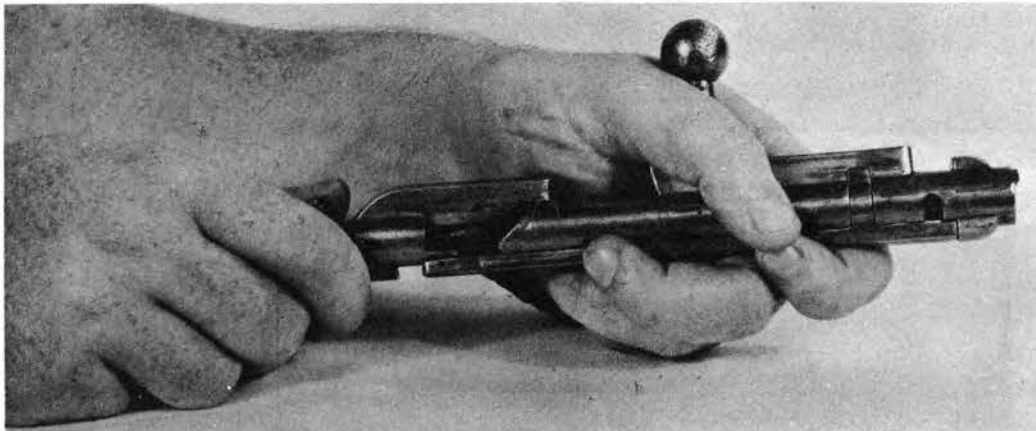
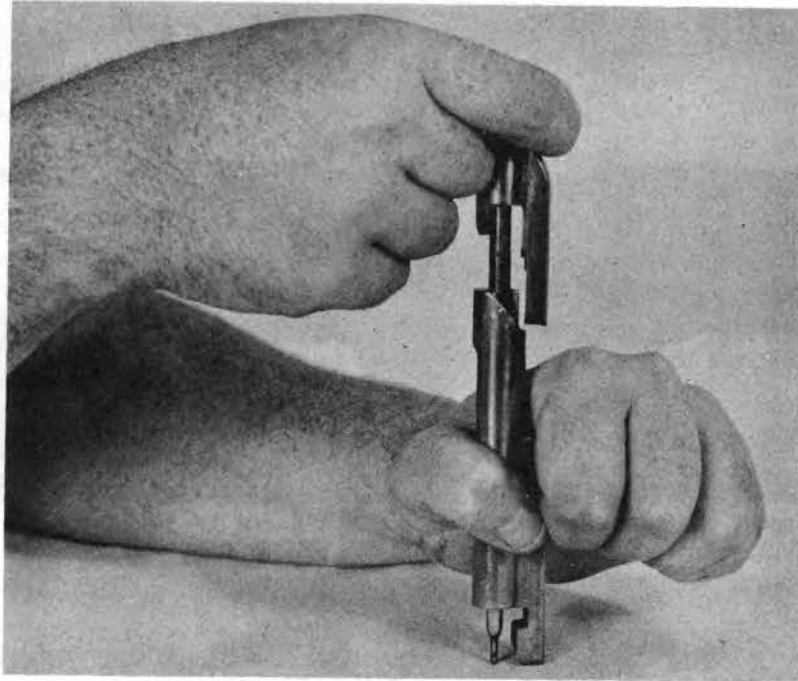
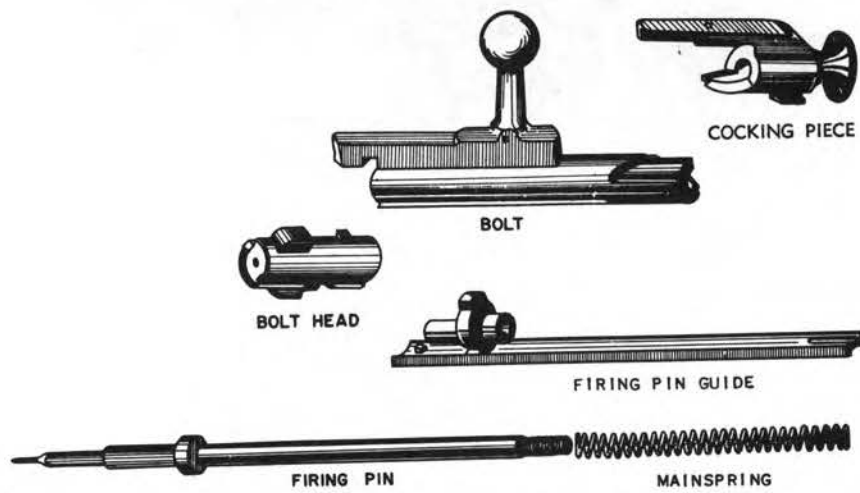

FIGURE 46. DRAWING COCKING PIECE BACK.
FIGURE 47. REMOVING COCKING PIECE.
FIGURE 48. BOLT ASSEMBLY COMPONENTS.
- (2) To disassemble the bolt, draw the cocking piece back and turn it to the left to relieve spring tension (fig. 46). Remove the bolt head and guide. Place the firing pin on a solid surface, push the bolt body down, and unscrew the cocking piece (fig. 47); then remove the firing pin and spring. The components of the bolt assembly are illustrated in figure 48.